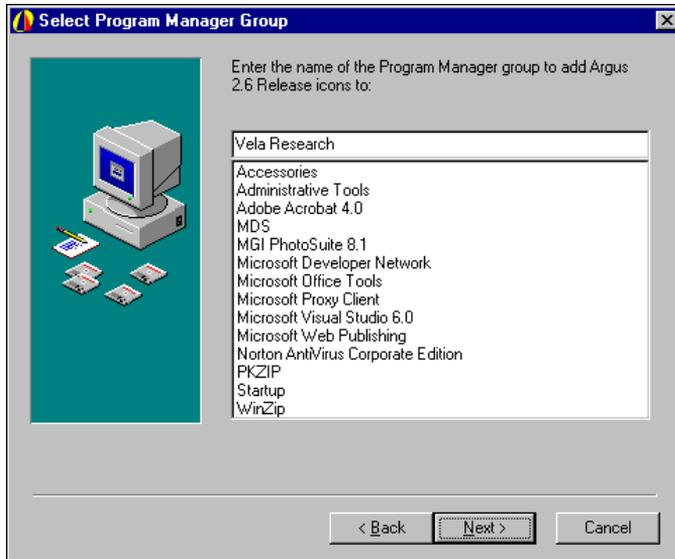

Figure 1-6. Select Program Manager Group Screen
4. From the "Select Program Manager Group" screen (Figure 1-6), accept "Vela Research" by clicking Next.